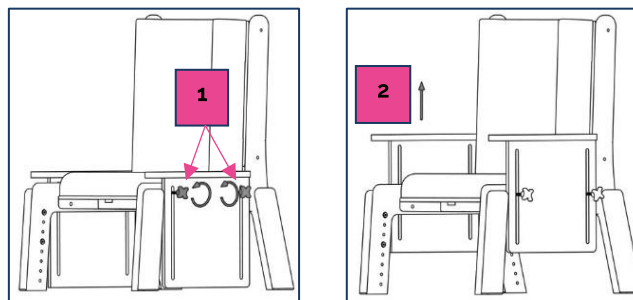

Fig. 4.2.4-1
1. Loosen the handwheels located on side of the armrests (see Fig. 4.2.4-1 Ref 1).
2. Slide the armrest up or down to the desired position. (see Fig. 4.2.4-1 Ref 2).